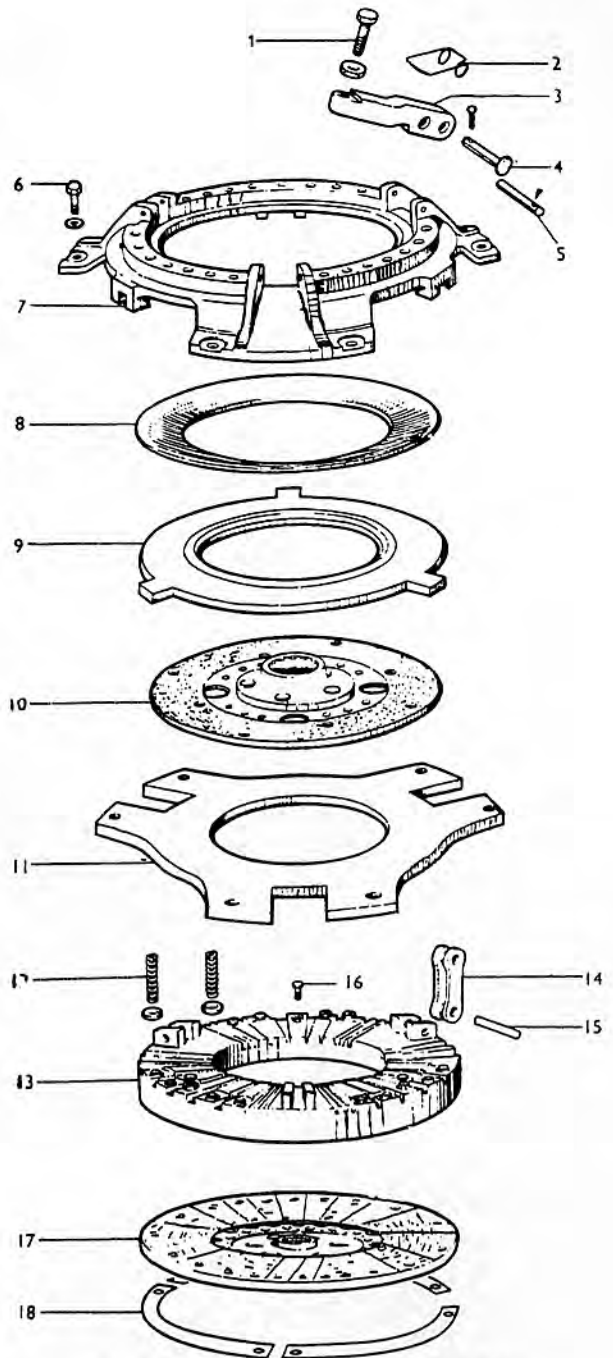

FIG. 21 EXPLODED VIEW OF CLUTCH
Both the single and dual clutches can be dismantled, simply, safely and quickly by adhering strictly to the following procedure. Components are shown in Fig. 21.
1. To assemble the clutch, proceed as follows : Components are shown in Fig. 21. Place the 11" (279.4 mm.) pressure plate face down on the work bench.